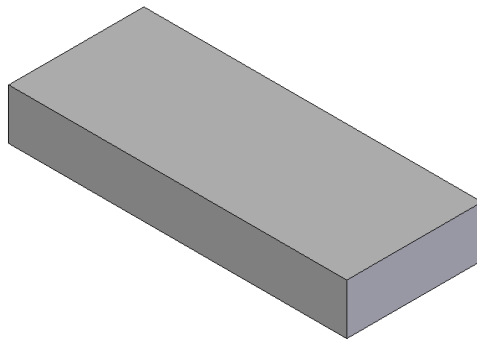

Figure 8-65 Base feature of the model
- Start a new part file and create the base feature on the top plane, refer to Figure 8-65.
1. Start a new part file and then create the base feature of the model, which is a box of 100X40X14 size. The base feature of the model is shown in Figure 8-65.